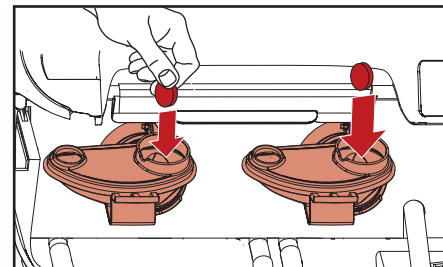

Fig. 5.6 - Insert Rinza tablets
4. Insert a Rinza cleaning tablet in both mixing bowls (fig. 5.6).
- h. Insert a Rinza cleaning tablet in both mixing bowls (fig. 5.6).